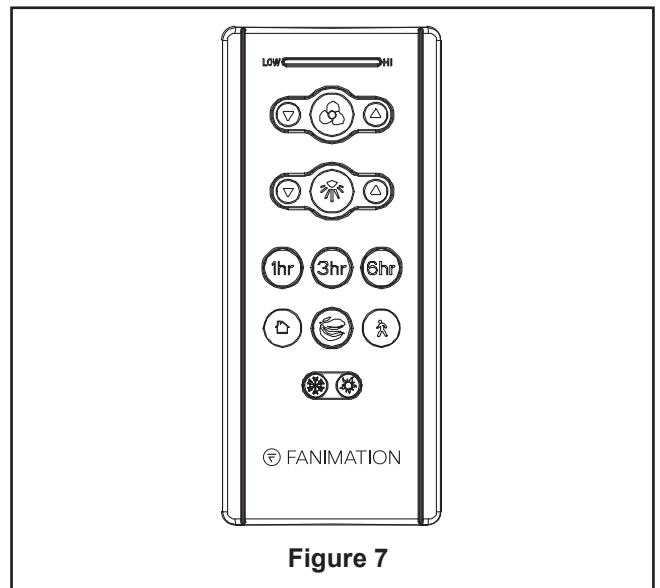

Figure 7
- 9. Remote functions: (Figure 7)